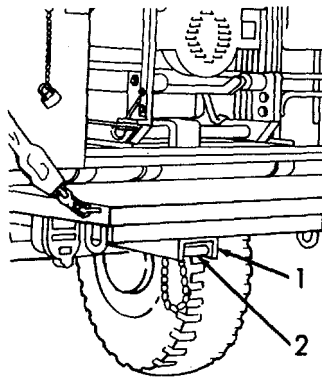

Figure 2-2. Lowering the Rear Support Leg.
g. Refer to Figure 2-2. Push up on rear support leg (1) slightly at same time push up on lever (2).
h. Lower leg (1) and screw out base plate to make firm contact with ground.